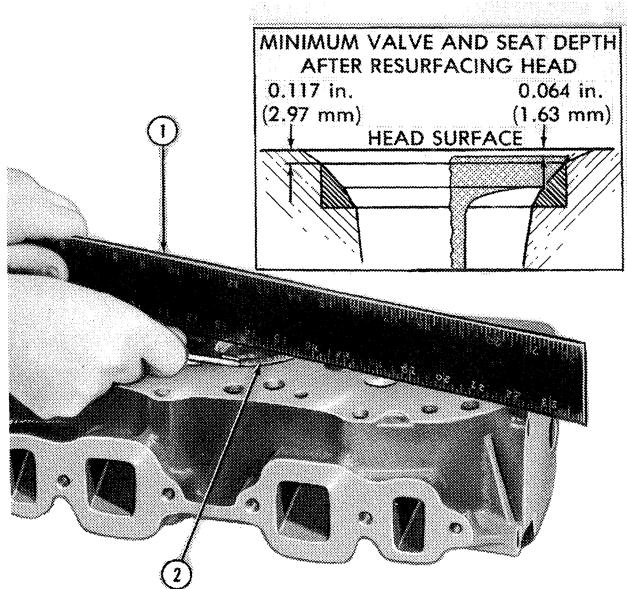

Figure 12
3. Use a straight edge and feeler gauge to check the flatness of the cylinder head in all directions, Figure 12. For flatness requirement see "Specifications" — Chapter 3.
NOTE: If the cylinder head does not meet the flatness specification, it may be resurfaced providing the depth from head face to valve seat and valve head is not less than the minimums shown in Figure 12.